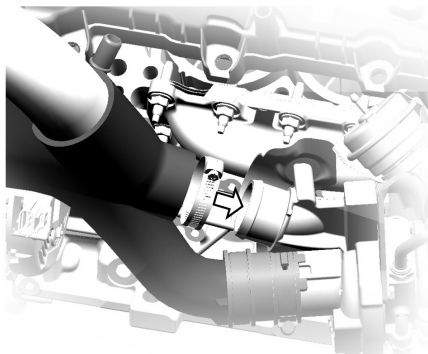

Figure 3
1. Install a **1.875” X 2.25” X 45° Hose Coupler** onto the driver-side turbo outlet using a **#36 Hose Clamp**. Do not tighten the clamp yet. **Refer to Figure 3**